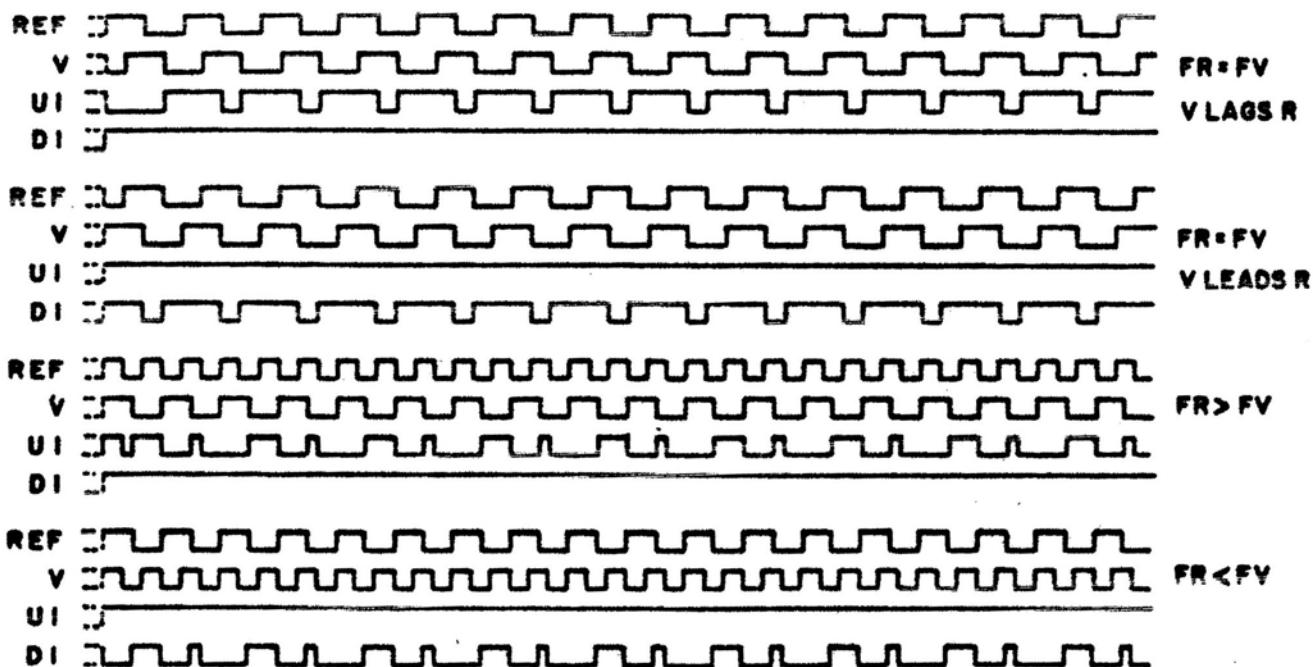

Figure 4-2. Phase Detector Timing Diagram
Check for 40 kHz signal at pin 1 of U5. If not present, troubleshoot 1st LO counter circuits. Refer to Figure 4-2 to understand the function of the phase detector.
- d. Phase Detector U12 - Check for 10 kHz signal at Pin 1 of U12. If incorrect or no signal, troubleshoot Time Base Circuits. Compare inputs (pins 1 and 3) and outputs 2 and 13 to **Figure 4-2** of the 1st LO Troubleshooting Test.
- e. If the signals at Pins 1 and 3 of U6 both appear correct, compare its outputs at Pins 2 and 13 with those of **Figure 4-2**. If these appear correct the problem must be in the amplifier section of U6 pins 8 and 9 and its connection to the VCO.